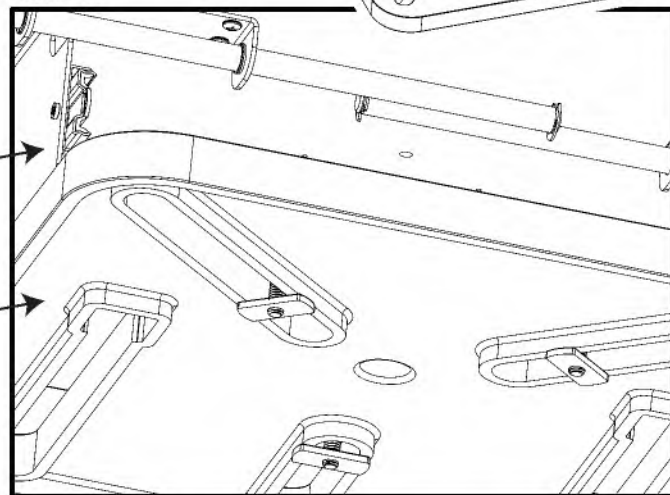

FIGURE 20
B. In drill press tables with T-slots, one size or the other should fit the slot as shown. **Figure 20/21.**